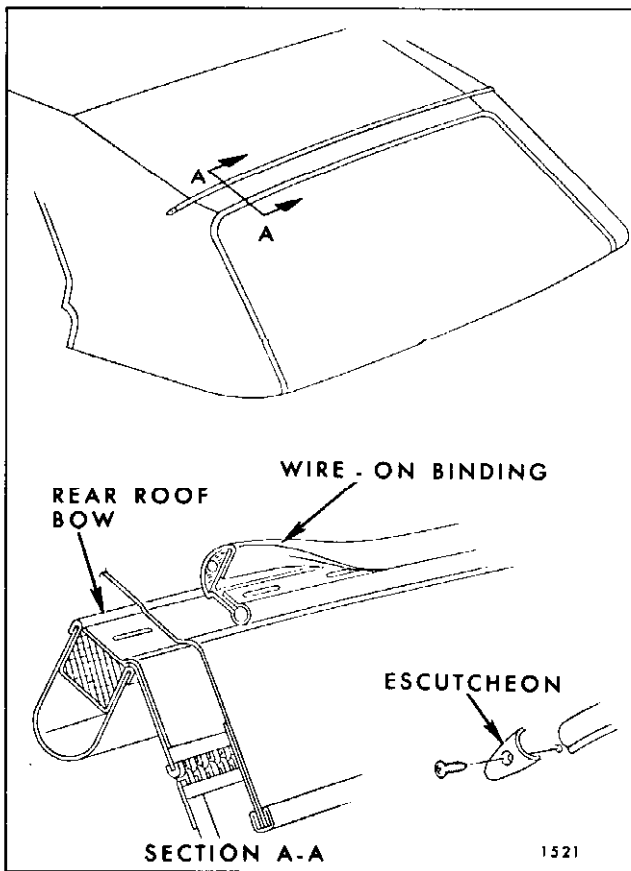

Fig. 13-37 - Rear Roof Bow Wire-On Binding
22. Remove screw securing escutcheon clip at each end of wire-on binding on rear bow. Remove wire-on binding from rear bow. Detach top material from rear roof bow and from trim sticks, then remove top cover assembly (Fig. 13-37).